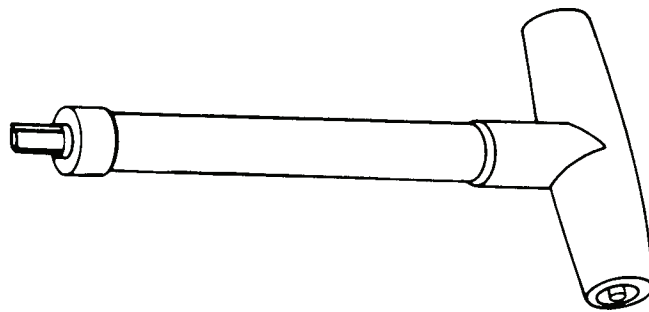

Figure 11. Type IV, class 2 torque wrench, tee handle, rigid case, ratcheting, audible signal, torque value setting, adjustable.
Class 2 - Torque set adjustable (figure 11)	---
**Torque Wrench, Audible Signal, Tee Handle Adjustable:** (figure 11). Gradually apply rotational force on handle of TI until sharp audible snap is heard. Stop applying force at this point.